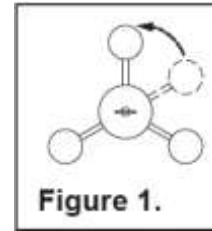
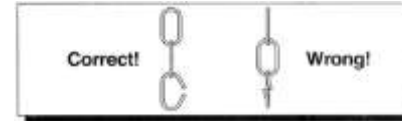

Figure 1.
Figure 2
2. Carefully separate SUPPORT ARMS by gently and evenly spreading them apart. See Figure 1.
4. Secure the CROSSBAR to the JUNCTION BOX with (2) JUNCTION BOX SCREWS. Thread LOCK NUT A and VIBRATION PROOF WASHER A to the top end of NIPPLE B. Thread NIPPLE B into the center of the CROSSBAR. Locate LOCK NUT B and thread onto bottom end of NIPPLE B. Tighten LOCK NUT A against CROSSBAR with pliers until snug.
5. Locate the FIXTURE CHAIN and determine desired hanging height of fixture. Adjust chain by removing links as needed. Please note that you may want to use chain pliers to spread links open (See Figure 2). Attach one end of chain to FIXTURE LOOP. Unravel FIXTURE WIRES and GROUND WIRE and pass wires through FIXTURE CHAIN alternating links at every 3 inches. Continue to pull the fixture wires through the following mounting components: CANOPY LOCK RING, CEILING CANOPY, CANOPY CHAIN LOOP and VIBRATION PROOF WASHER B.
10. Restore supply power (ON). Retain this sheet for future reference.